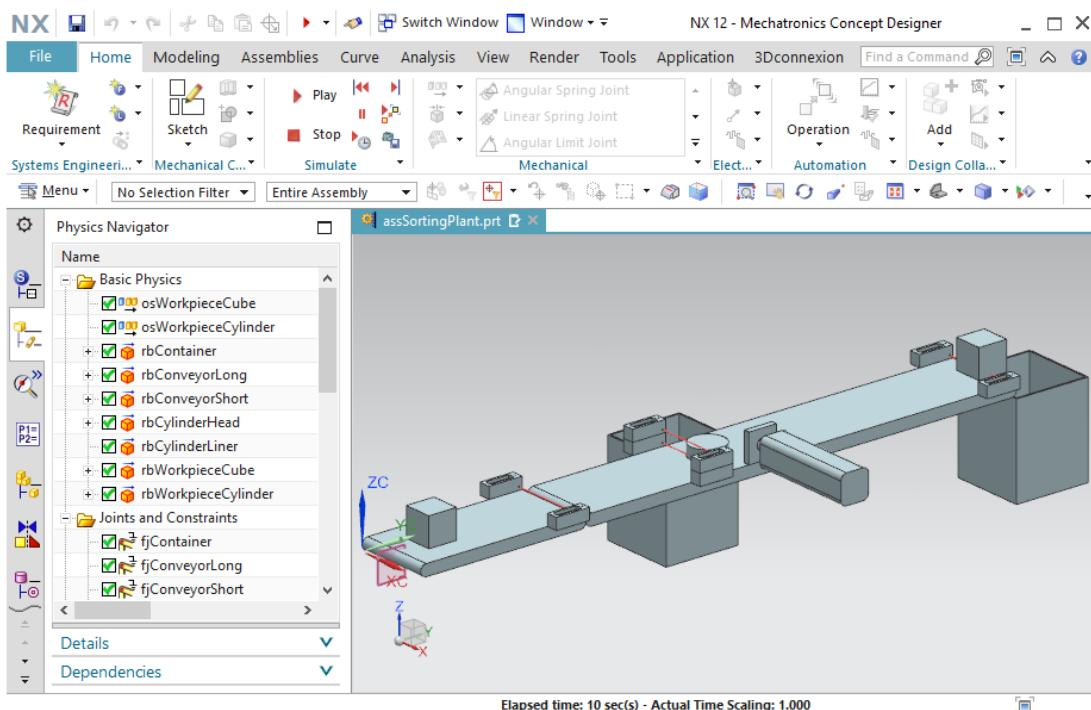

Figure 55: Simulation of the object sources in MCD
- Test the behavior by starting a simulation. Beforehand, however, you should add the speed controls of the conveyor belts to the Runtime Inspector and ensure that only the two controls "**scConveyorShortConstSpeed**" and "**scConveyorLongConstSpeed**" are active. After adding both object sources, also ensure that they are active via the Runtime Inspector. Proceed as described in Chapter 4.3, "Section: Adding and controlling a property in the simulation". By starting a simulation as explained in Chapter 7.1, "Section: Starting and stopping a simulation in MCD", you can observe how another workpiece is added to the simulation at 5 s intervals (see Figure 55).